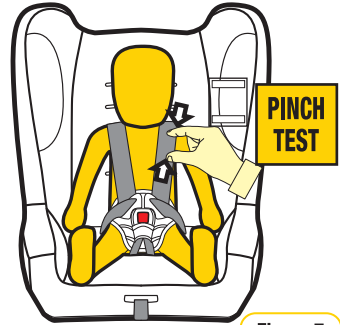

Figure 7
- Step 6:** Check the harness tightness by the **PINCH TEST**, this is achieved by pinching the harness webbing at the shoulders (refer Figure 7).